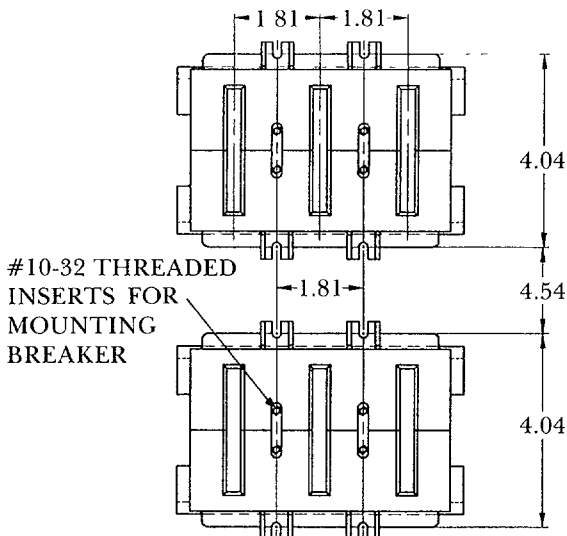

Figure 1.
The plug-in base mounts to either line or load end of the circuit breaker. The bus bars are available from the factory in a vertical position. See Figure 1.
1. Mount Plug-in Bases to existing structure or panel and space them according to the diagram in Figure 1. Secure bases using #8-32 × 1/2" long screws, lockwashers, flatwashers and hex nuts.